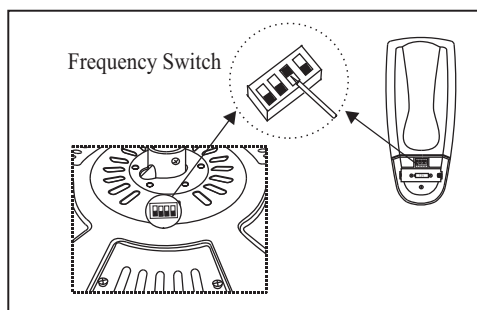

Figure 17
1. The receiver frequency selector is located on the top of the motor assembly plate as shown in Fig. 17.
2. The transmitter frequency selector is located in the battery compartment as shown in Fig. 17. Each frequency selector has 4 switches, you may use any number of possible combinations but you must set each switch in the transmitter to match the same switch in the receiver.